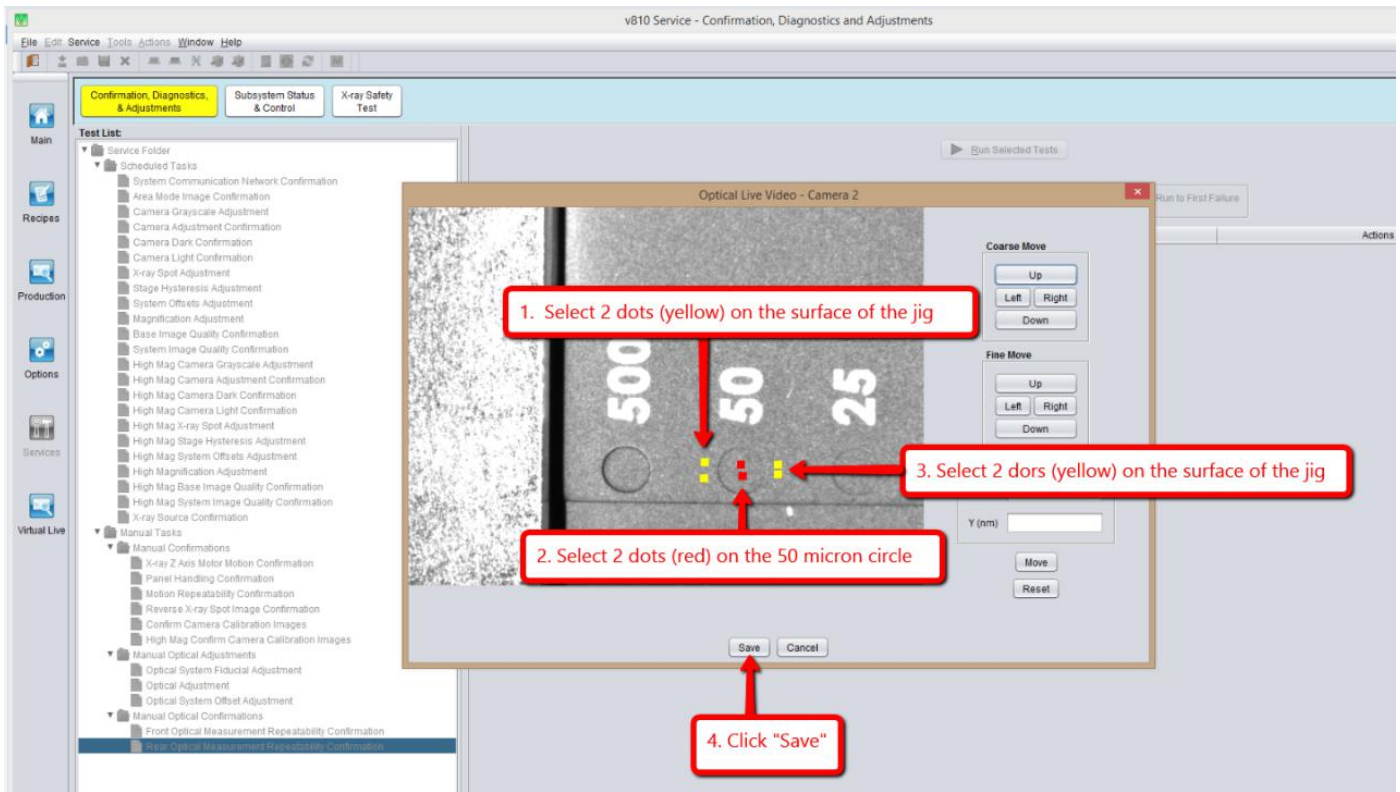

Figure 57 Adjustment Point
42. Do select the points of the adjustment dot as shown in the Figure 57.